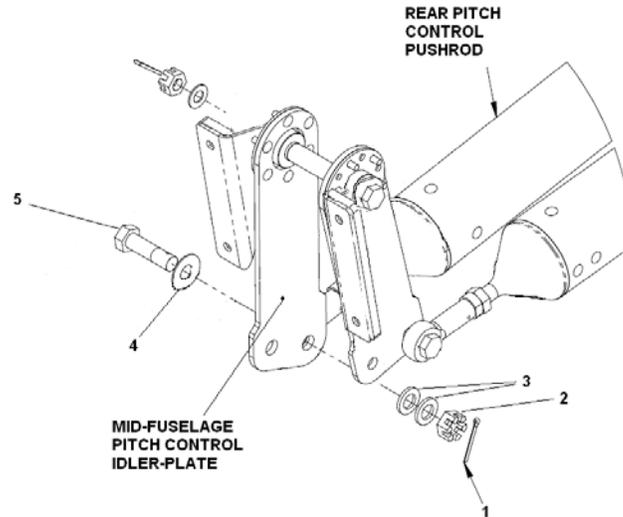
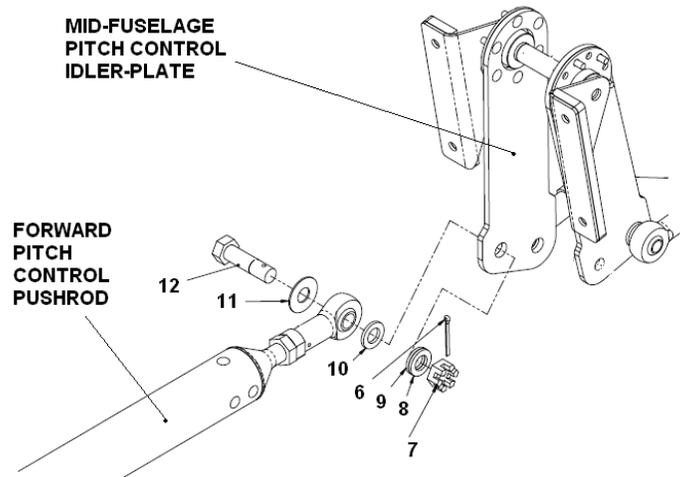
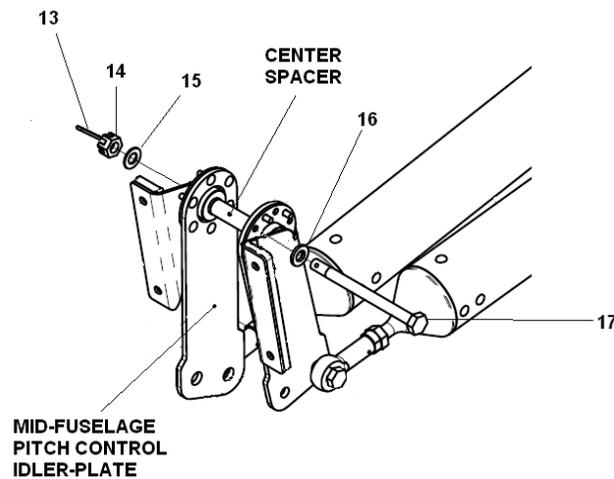

Figure 27-50 Rear Pitch Control Pushrod to Mid-fuselage Pitch Control Idler-plate
Figure 27-51 Forward Pitch Control Pushrod to Mid-fuselage Pitch Control Idler-plate
Figure 27-52 Mid-fuselage Pitch Control Idler-plate Removal and Installation
2. Refer to Figure 27-50. Remove split pin (1) and discard. Remove the nut (2), washers (3), spacer (4), and bolt (5). Separate rear pitch control pushrod from mid-fuselage pitch control idler-plate.
3. Refer to Figure 27-51. Remove the split pin (6) and discard. Remove the nut (7), washers (8 & 9), and spacer (10). Note the locations of washers and spacer.
4. Remove bolt (12) and washer (11) and disconnect forward pitch control pushrod from mid-fuselage pitch control idler-plate.
5. Refer to Figure 27-52. Remove split pin (13) and discard. Remove the nut (14), and washer (15) from bolt (17). Slide bolt out part way from mid-fuselage pitch control idler-plate enough to allow center spacer and idler plate to separate. Remove mid-fuselage pitch control idler-plate.
1. Refer to Figure 27-52. Remove nut (14) that was placed on bolt (17) to temporarily support rudder pushrods and idler plate.
3. Refer to Figure 27-52. Install washer (15) and nut (14).
4. Torque per Chapter 20 - *Standard Practices*. Install a new split pin (13).
5. Refer to Figure 27-51. Connect forward pitch control pushrod to mid-fuselage pitch control idler-plate using bolt (12), washer (11), spacer (10), washers (8 & 9) - installing washers and spacers as noted during removal - and nut (7).
6. Torque per Chapter 20 - *Standard Practices*. Install a new split pin (6).
9. Refer to Figure 27-50. Connect rear pitch control pushrod to mid-fuselage pitch control idler-plate using bolt (5), spacer (4), washers (3), and nut (2).